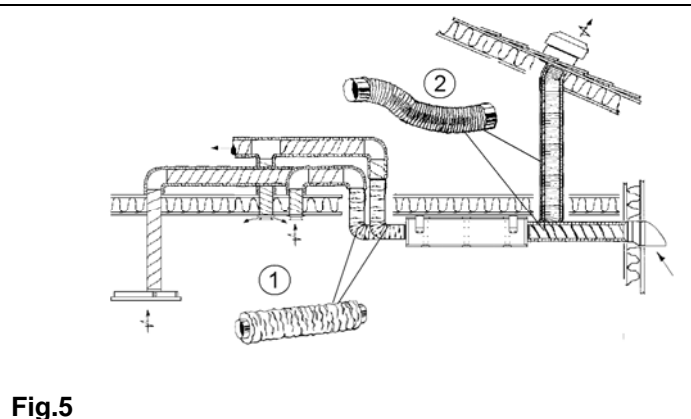

Fig.5
To avoid fan noise being transferred to rooms, install sound attenuators (pos.1, **fig.5**) on connectors for inlet air and extract air on the unit. (L = 1,0 m). Not from cooker hood.
Use only flexible ducting (pos. 2, **fig. 5**) for connections between the unit and roof unit/grill for outdoor air intake.